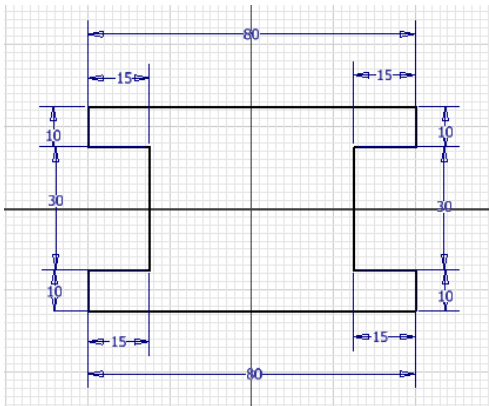

Figure 2-68 Sketch of the outer loop
- Draw the outer loop by specifying the length and angle lines by using the Dynamic Input method, refer to Figure 2-68.
16. Right-click to display the Marking Menu and choose **OK** from it to exit the **Line** tool. The sketch of the outer loop is shown in Figure 2-68. You need to arrange the position of dimensions in the sketch by dragging them to view the sketch clearly.